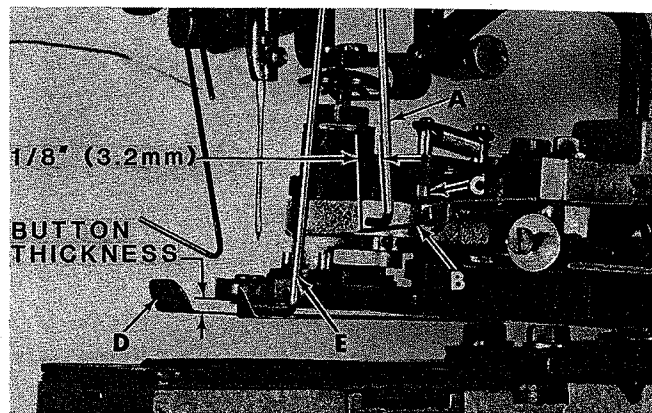

Fig. 45
Machine is in STOP POSITION. Strike-off wire (A, Fig. 45) is set correctly when low enough to push release spring (B) down so that its shoulder clears the escapement lever pin (C) allowing the escapement lever to release the button holder. The tip of the wire should be positioned 1/8 inch (3.2 mm) from edge of the release spring.
Machine is in STOP POSITION. The button unloading spring (D, Fig. 45) should be held down by rod (E) so that the sewn button is removed from the holder. The distance between the unloading spring and the bottom of the holder should be approximately the thickness of the button used.